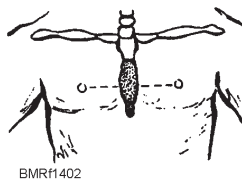

Figure 14-2.—Locating the sternum.
- a. Baring the chest and locating the sternum by drawing an imaginary line from one nipple to the other to identify the proper area of the sternum, which is darkened in figure 14-2.
There is a small piece of cartilage at the lower end of the sternum (fig. 14-2). A